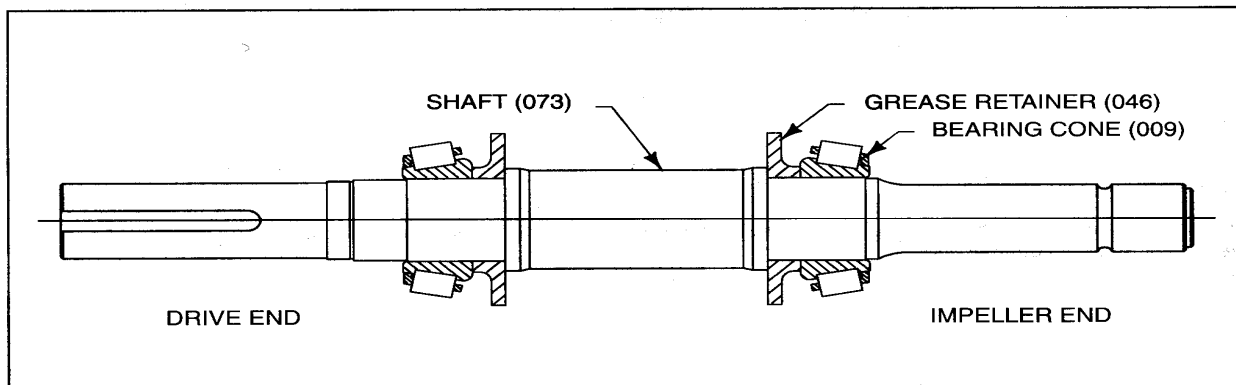

Figure 2-1 • Fitting Grease Retainers and Bearing Cones
This section contains information for pump designs designated as indicated above and as shown in *Figure 2-1*. The pump bearing configuration consists of opposing tapered roller bearings.
BEARING ASSEMBLY – FITTING GREASE RETAINERS AND BEARING CONES (Figure 2-1)
- Work this grease by hand into the bearing on the shaft to fill space between cone, rollers, and roller cage. Spread remainder of grease between bearing and grease retainer shown in Figure 2-1.